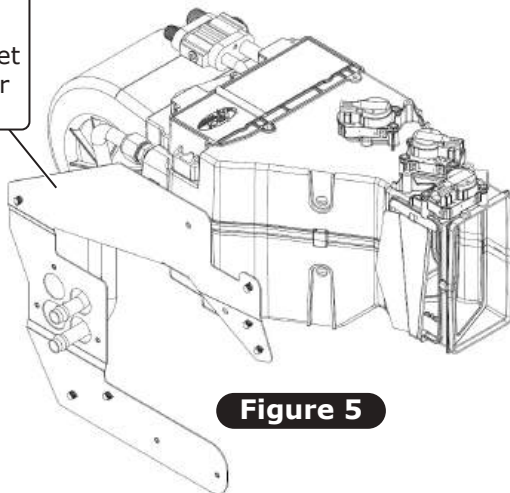

Figure 5
7. Attach the evaporator firewall bracket to the evaporator assembly using (2) #10 x 5/8" screws (See Figures 5 and 6, below).